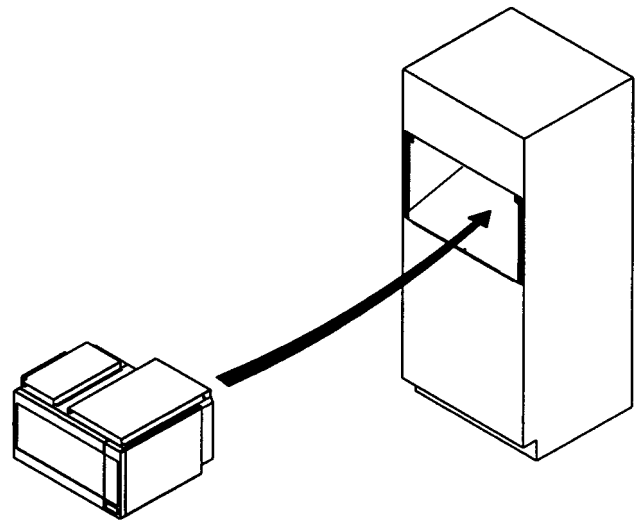

Figure 5
10. Slide the assembled microwave oven part way into the prepared cabinet cutout. Plug the electrical cord in the wall receptacle (ask for help from another person). Slide oven in the rest of the way into the cabinet. Position base pan on cabinet shelf with respect to the center line as shown on Figure 5. The front end of pan should align flush with the front edge of the shelf. Fasten base pan to shelf with two (2) screws #8 x 1/4.